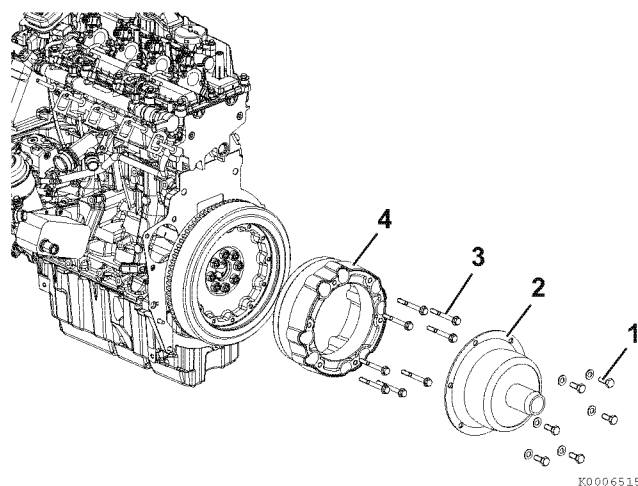

Figure 5-67
3. Remove six bolts and washers (1, **Figure 5-67**).
4. Remove coupler (2, **Figure 5-67**).
5. Remove eight bolts (3, **Figure 5-67**) and remove coupler adapter (4, **Figure 5-67**).